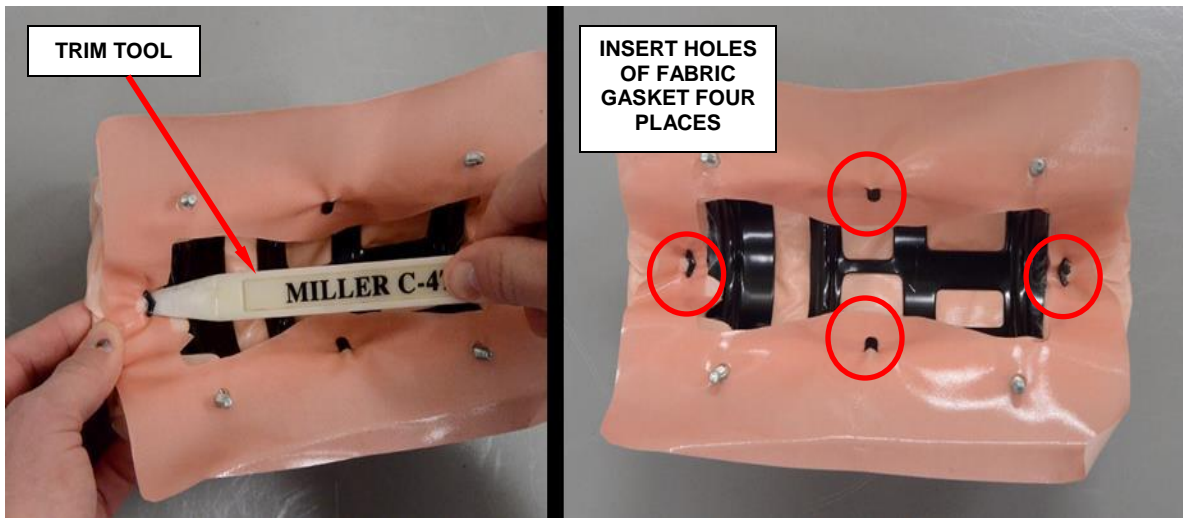

Figure 11 – Fabric Gasket
- i. With the help of a trim tool insert the holes of fabric gasket, four places (Figure 11).